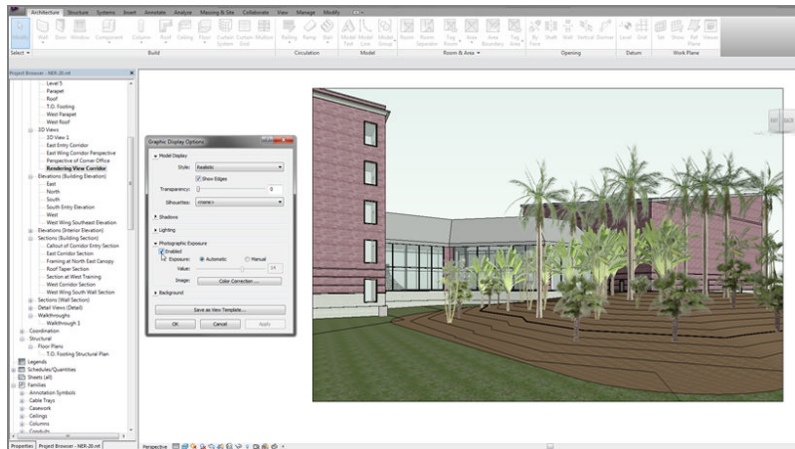

FIGURE 19.2: Selecting Graphic Display Options and changing the crop region
8. Select the crop region, and widen the view as shown in Figure 19.2.
11. In the Properties dialog box, click the Edit button in the Graphic Display Options row (see Figure 19.2).